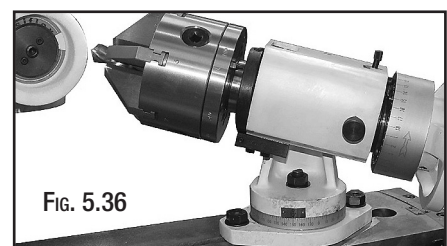

FIG. 5.36
1. Loosen Handle (No.53) a little. Then adjust the angle of the fixture, by raising about 10—15° or the angle required. (Fig. 5.36)